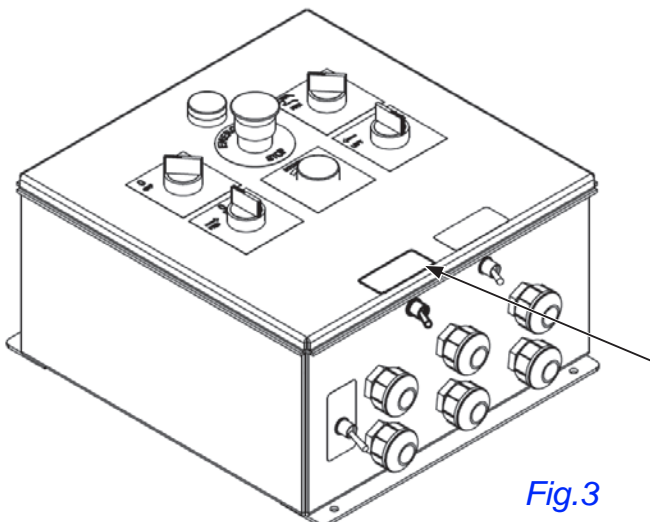

Fig.3
8. Place supplied decal to front face of control panel lid, centered over Night Light Kit toggle switch. See Fig.3.